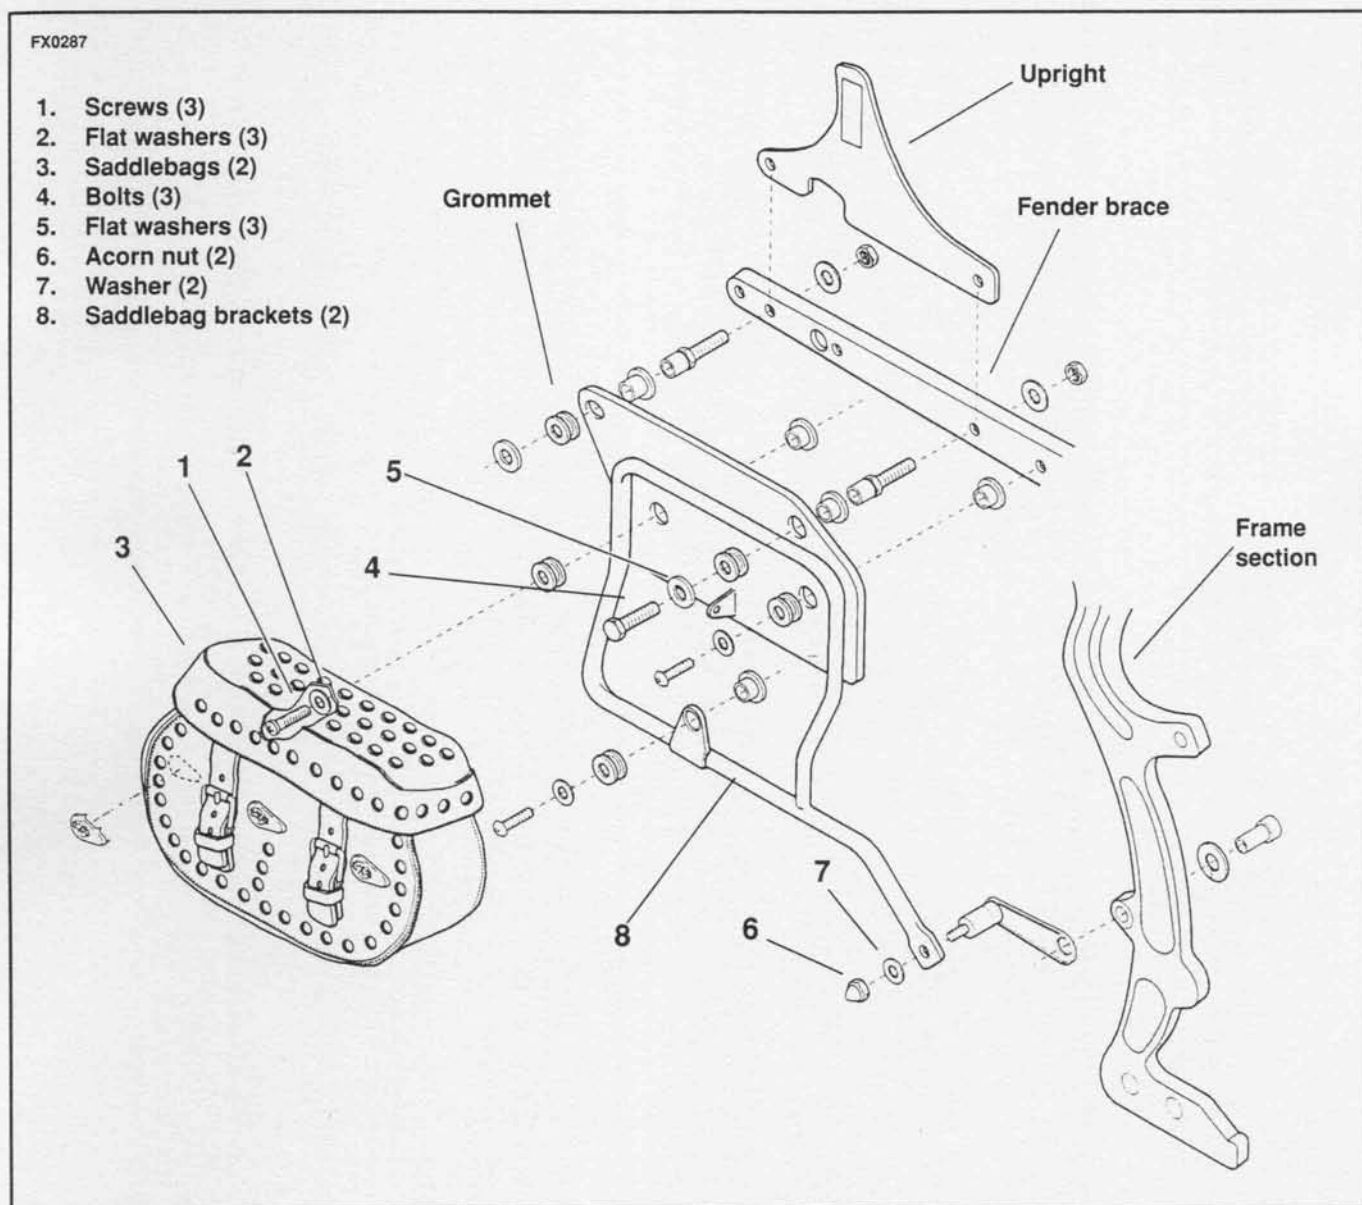

Figure 2-104. Saddlebags and Saddlebag Brackets
1. See Figure 2-104. Remove screws (1) and flat washers (2).
2. Remove saddlebags (3).
1. See Figure 2-104. Place saddlebag bracket (8) in position.
2. Install flat washers (5) and bolts (4).
3. Install acorn nut (6) and washer (7).